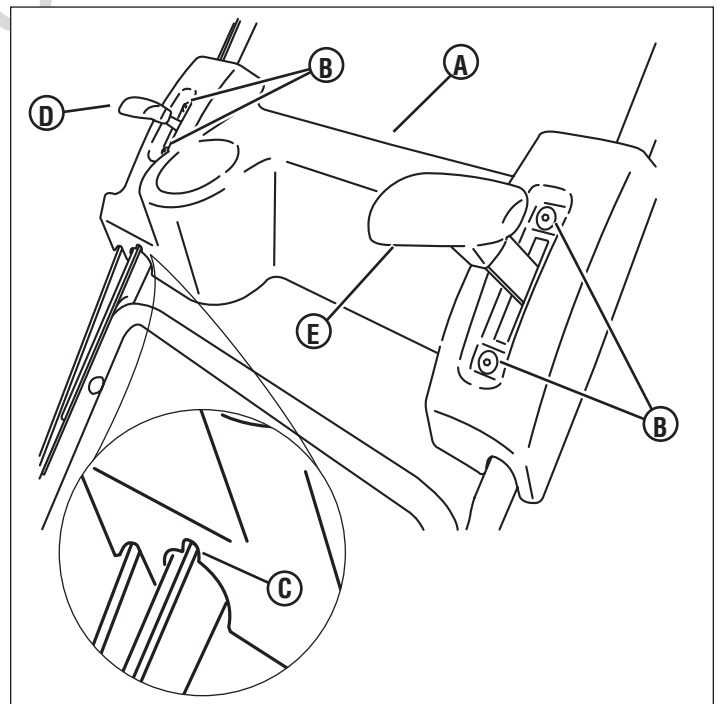

Figure 8
- Install the console (A, Figure 8) onto the upper handle section with four 1/4-20 x 1/2" torx screws (B). Tighten securely.